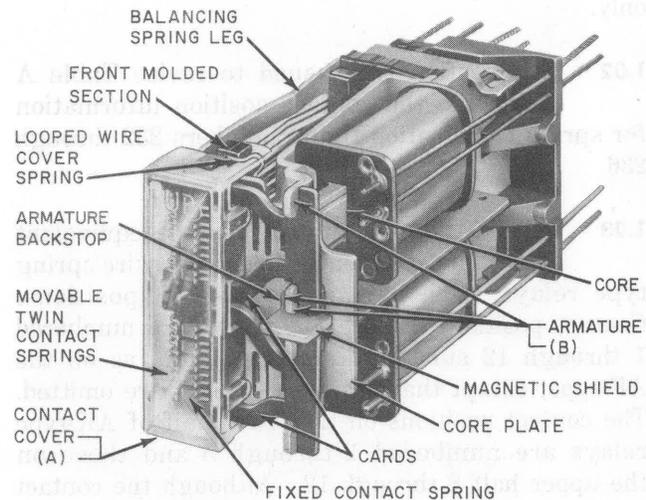

Fig. 1—AK-Type Relay Having Looped Wire Cover Spring
2.04 Contact Cover Tightness: Fig. 1, (A)—The contact cover shall be held firmly in place.
2.05 Balancing Spring Tension: Fig. 1, (B)—With the relay in the unoperated position, the combined tension of the associated balancing spring legs shall be sufficient to hold the card against the associated surfaces on the armature and the armature against its backstop. (See requirement 2.06.)